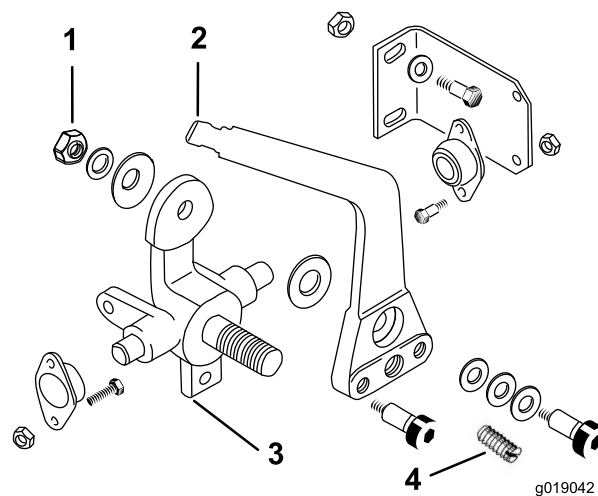

Figure 38
3. Turn the adjustment nut until the scale shows 13.61 to 22.68 kgf (30 to 50 lbf) to move the lever (Figure 38).